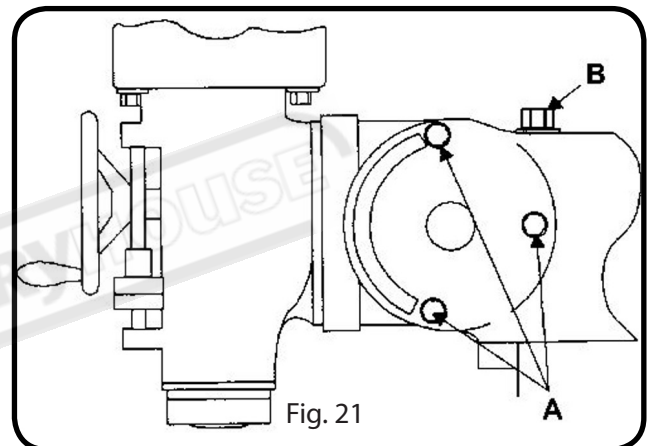
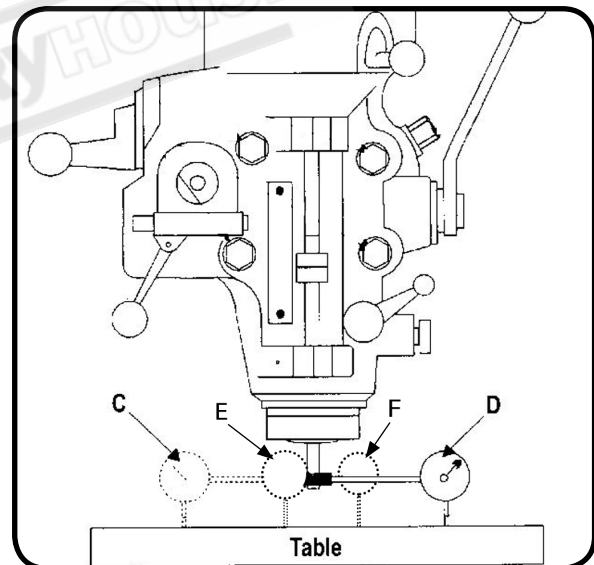

Fig. 21
Fig. 24
2. Loosen three lock bolts "A" shown in Fig.21
3. Use one hand to apply pressure to head in direction of tilt, then slowly rotate tilt-bolt "B" shown in Fig. 21
2. Put the spindle drive in neutral and rotate the spindle 180 degrees (when rotating, raise the indicator plunger to prevent it from dropping into the table T-slots (Fig. 24)
3. The indicator should read the same in position "C" and "D" (Fig. 24) of the table. If not, loosen the four hex nuts (A of Fig. 22) and reposition the mill head. If the indicator does not read the same in "E and "F" (Fig.24) loosen the nuts "A" in Fig. 21 and reposition the mill head.